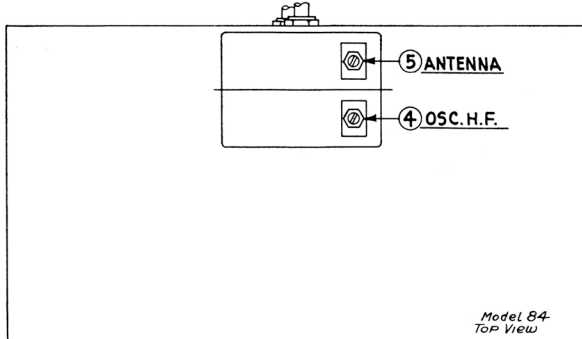

Fig. 22
The OSC HF ④ and ANT compensating condensers ⑤ are adjusted last in the order mentioned. These are located on the tuning condenser gang, the ANT ⑤ being nearest the front of set. See Fig. 22. In early production sets use the fibre handle screw driver for adjustment, later production, the fibre hex wrench. In making these adjustments, set the signal generator at 1400 and the station selector at 140.